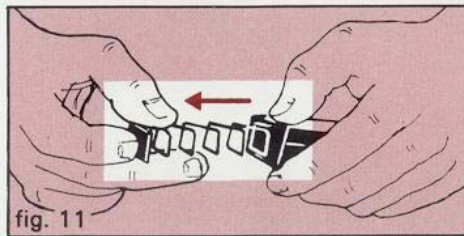

fig. 11
6. Using both hands, ease spring and follower out of housing (fig. 11).